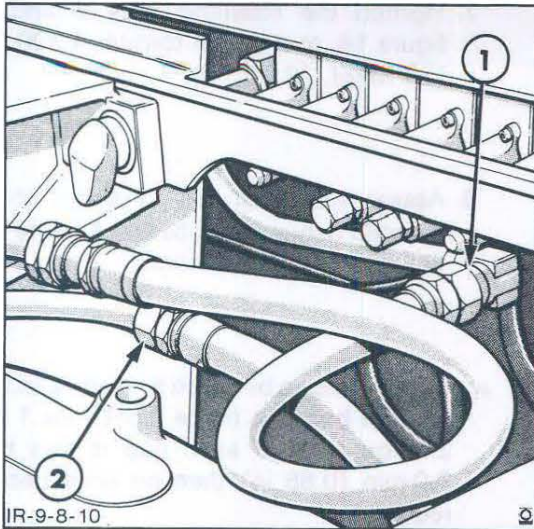

Figure 11
12. Disconnect the return to reservoir hose at the Unit fitting and the backhoe valve feed hose at the tube connection on the backhoe mainframe, Figure 11.